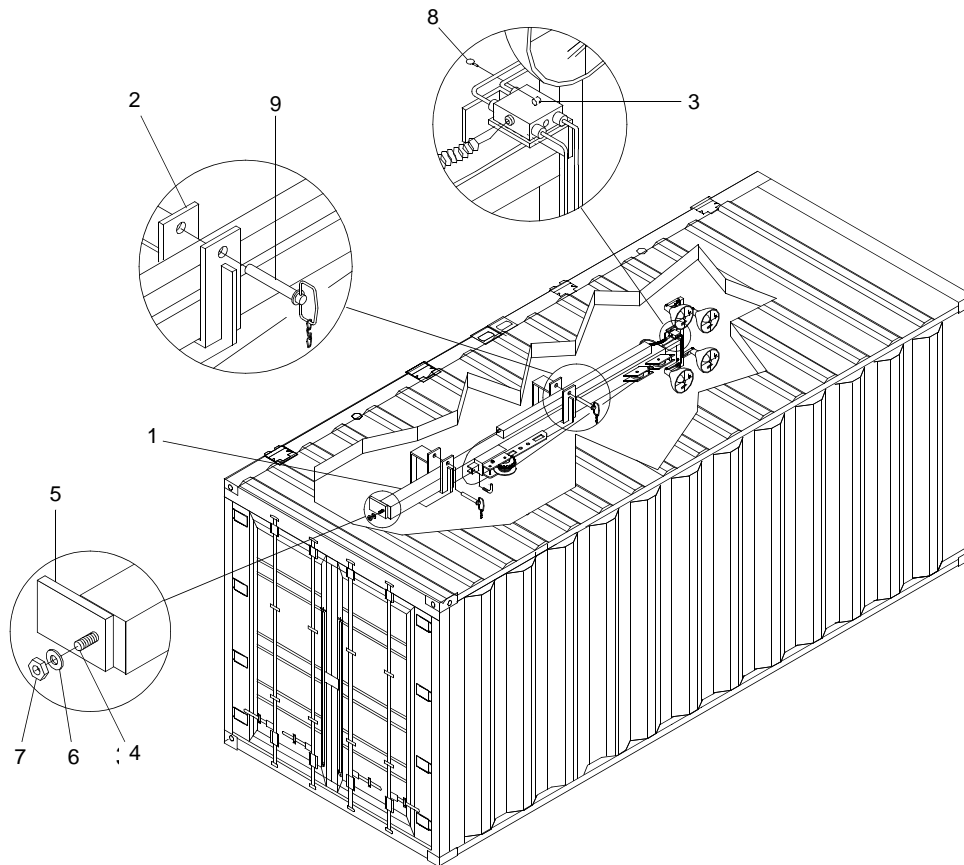

Figure 9. Tower Storage
49. Using six people, lift and position tower (figure 9, item 1) on light tower container wall brackets (figure 9, item 2).
50. Slide tower (figure 9, item 1) so that it engages the locator pin (figure 9, item 3) at the upper end and the tower stud (figure 9, item 4) engages the bracket (figure 9, item 5) at the lower end.
51. At the lower end of tower (figure 9, item 1), install washer (figure 9, item 6) and nut (figure 9, item 7) on stud (figure 9, item 4) and tighten nut (figure 9, item 7).
52. At the upper end of tower (figure 9, item 1), install quick release pin (figure 9, item 8) on locator pin (figure 9, item 3).
53. Install hitch pins (figure 9, item 9) in light tower container wall brackets (figure 9, item 2).